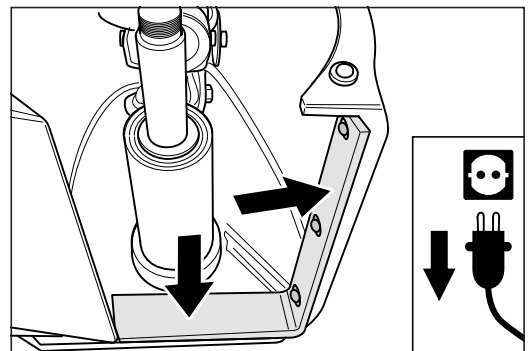

Fig. 53 Ensure that the sealing felt is not worn or damaged!
- Ensure that the sealing felt is not worn or damaged (fig. 53)!